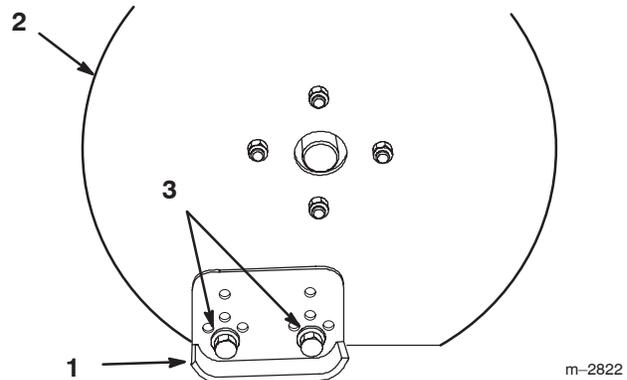

Figure 10
2. Remove the nuts, washers, and bolts securing the skids to the housing (Fig. 10).
3. Position the skids equally on both sides, to obtain a level scraping action, and secure the skids with the nuts, washers, and bolts (Fig. 10).